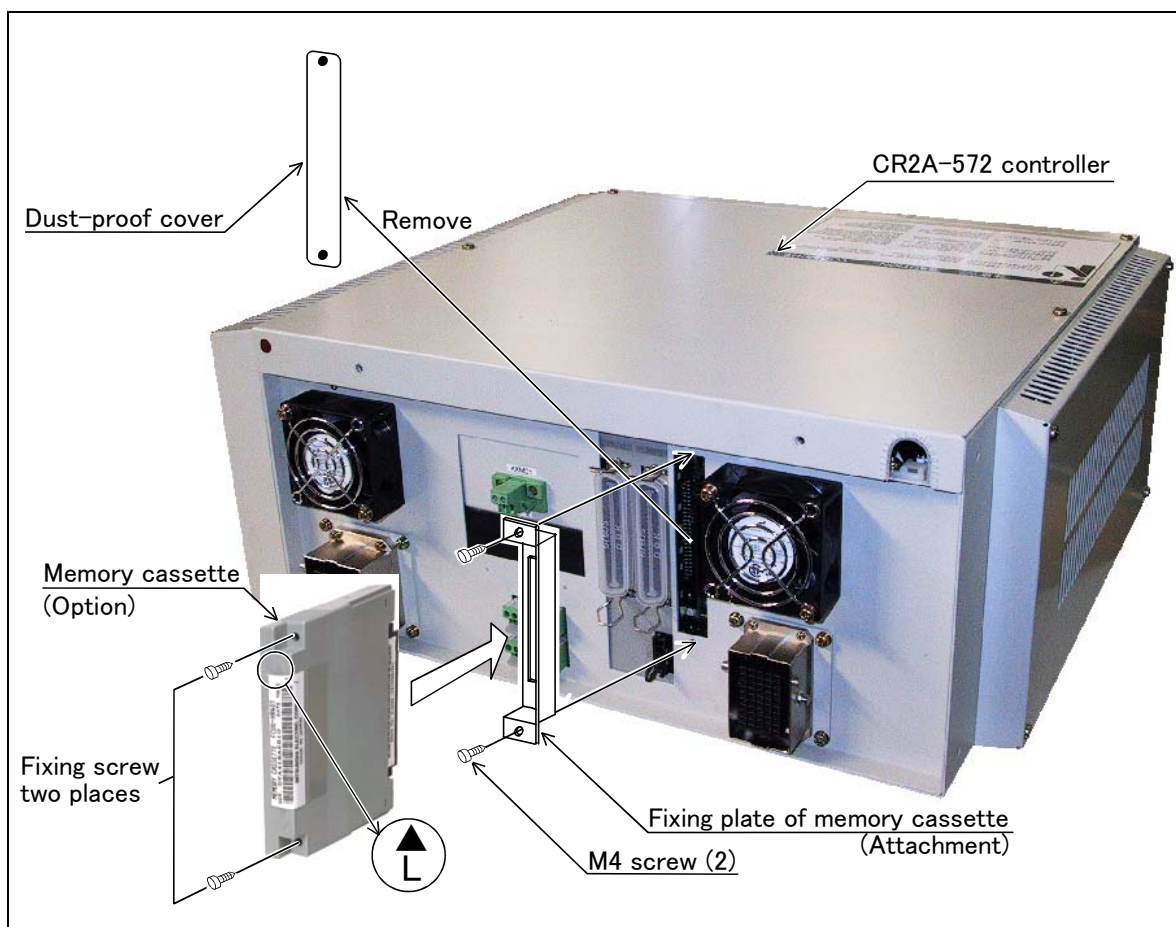

Fig.3-49 : Installation method of extension memory cassette
- As shown in Fig. 3-49, insert the memory cassette all the way to the back with the "▲" facing up.